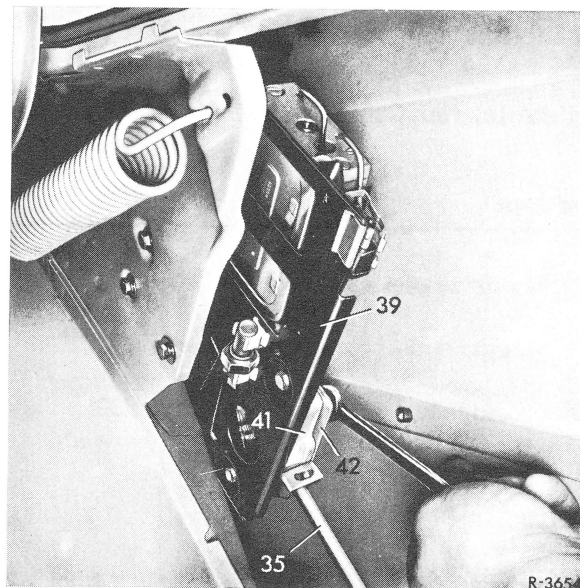

Fig. 4
5 Disconnect teleflex tube and outlet pipe (35) from gear unit (Fig. 4).